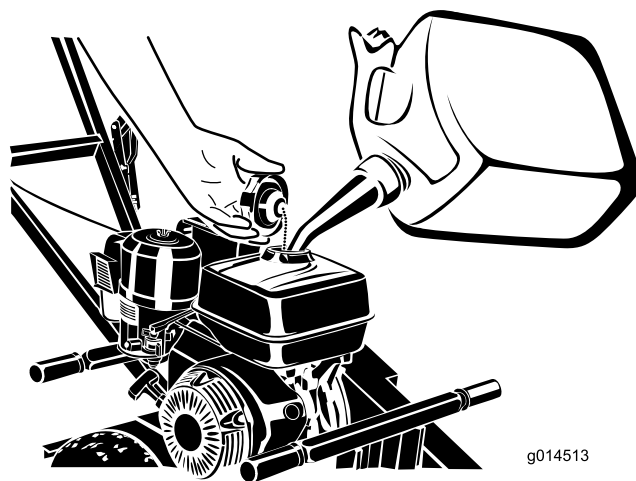

Figure 7
3. Clean around the fuel-tank cap and remove it (Figure 7).